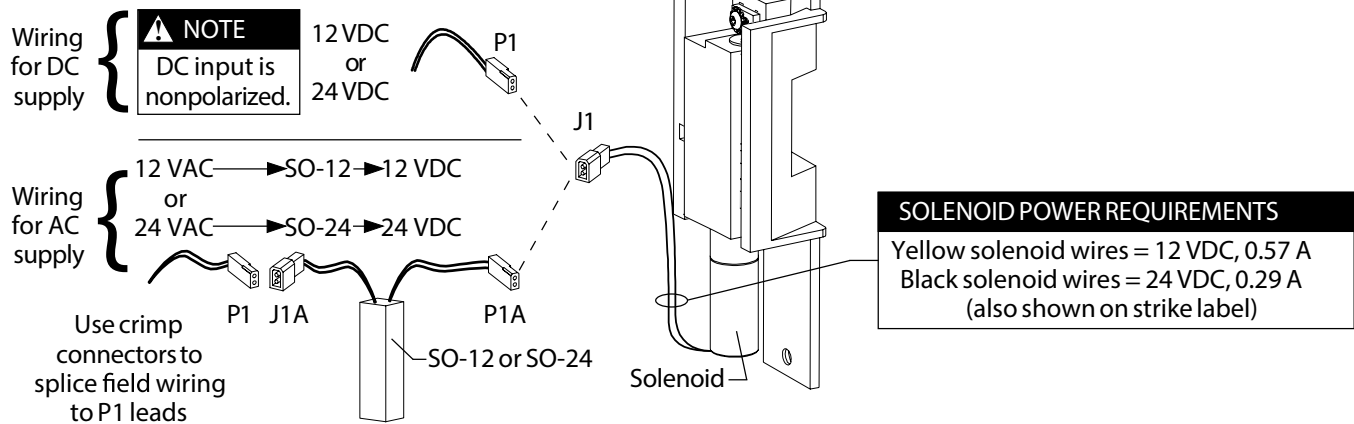
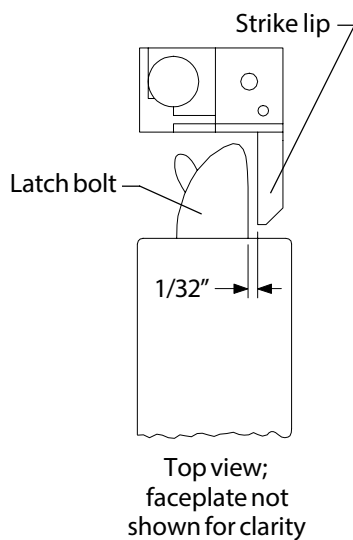
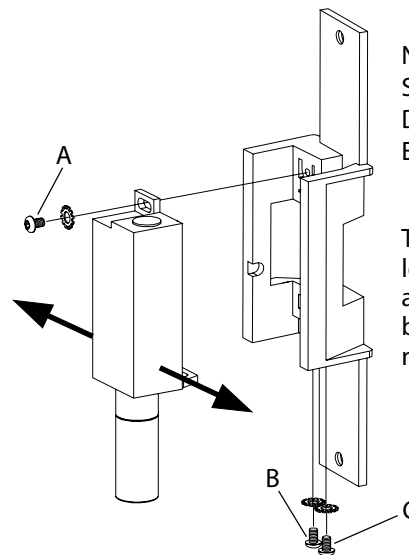

Figure 1
Figure 2
Figure 3
3. Wire strike (Figure 1).
4. Test strike: Apply solenoid power. Fail secure (FSE) lip unlocks. Fail safe (FS) lip locks.
5. Install strike with two #12-24 screws. Make sure clearance between latch bolt and strike lip is 1/32" (Figure 2). If not, uninstall strike, adjust (Figure 3), and reinstall.